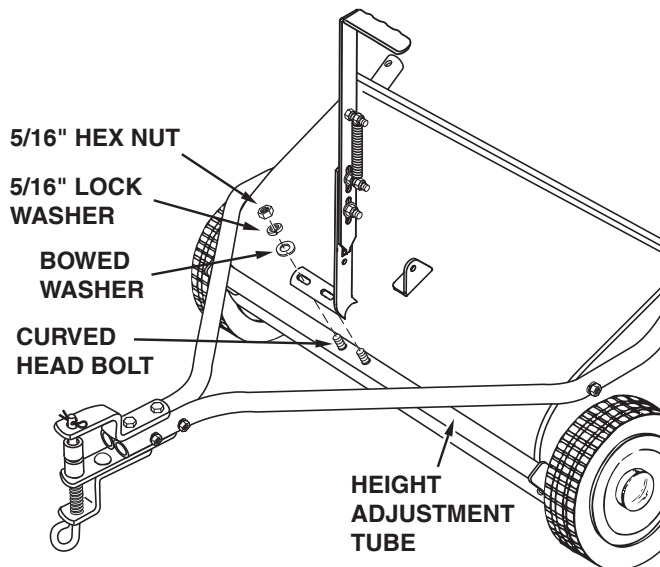

FIGURE 9
20. Assemble the height adjust handles to the height adjustment tube on the front of the sweeper housing. Use two curved head bolts, bowed washers, 5/16" lock washers and 5/16" hex nuts. **Do not tighten yet.** See figure 9.